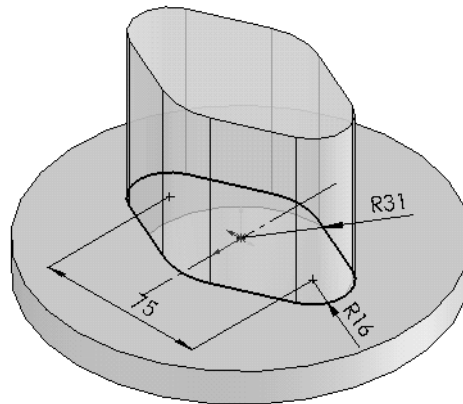

Figure 9-60 Sketch and the preview of the second feature
- Edit the model using the **Move/Size Features** tool, refer to Figures 9-60 through 9-62.
The sketch of the second feature with the preview of the feature in temporary graphics is displayed in the drawing area, as shown in Figure 9-60.